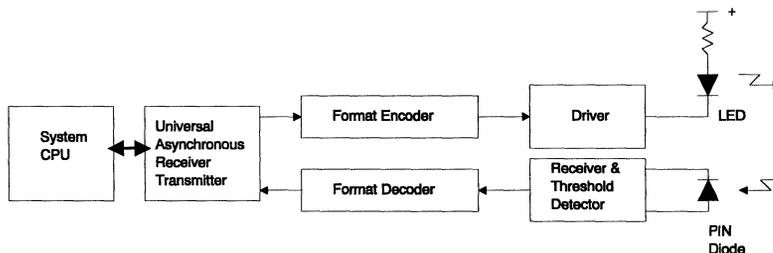

Figure 1. IrDA Infrared Link Port Architecture
An IrDA port is based on the architecture of the communications (COM) port of a Personal Computer (PC), see Figure 1. The port uses a Universal Asynchronous Receiver Transmitter (UART) and operates at bit rates from 2400 bps to 115200 bps. The data are transmitted as 10-bit characters, with 8 data bits, 1 start bit added to the beginning of the data and 1 stop bit added to the end of the data.